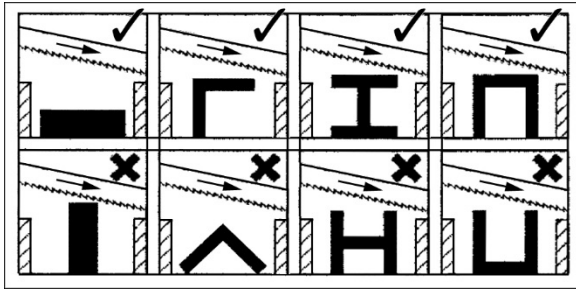

Figure 9-1: clamping positions
3. Position workpiece in vise and tighten vise. Workpiece should be fitted directly between the jaws without adding other objects. When work piece is profiled section, flat piece or special shape, refer to examples in Figure 9-1 for proper clamping positions. The top row shows acceptable clamping positions, the bottom row show *unacceptable* positions.